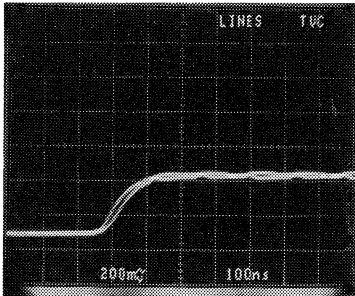

Figure 4-4.
6. ADJUST—The variable resistor R544 until the two rising edges coincide as shown in Figure 4-4 .